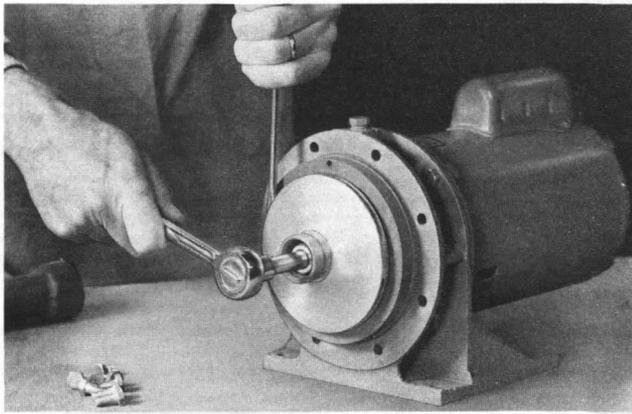

Figure 1
6. Insert a screwdriver in one of the impeller waterway passages and back off the impeller nut with a socket wrench (5/8" across flats), as shown in Fig. 1.